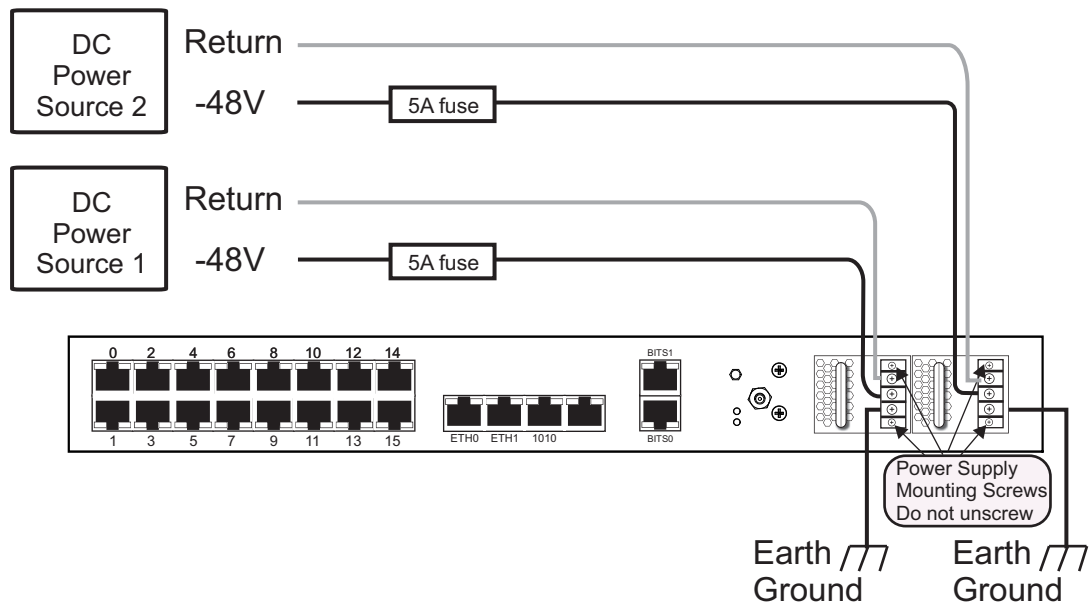

Figure 5.4 7800-TMS DC wiring diagram
1. Connect one wire from the positive terminal of the 7800-TMS to the return side of DC power source one, as shown in figure 5.4 on page 48.